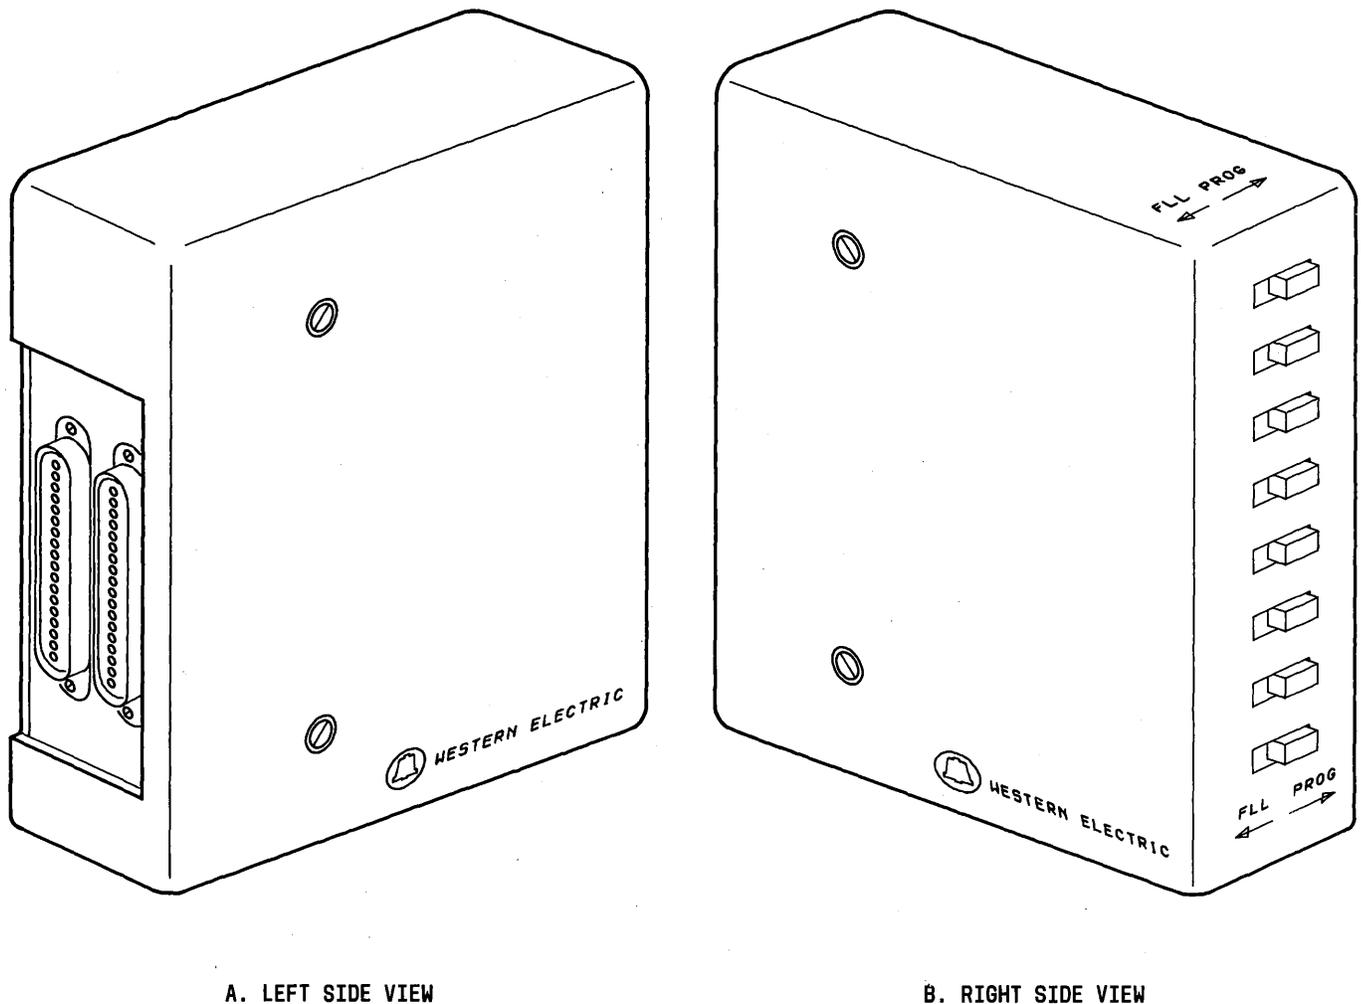

Fig. 8—97A1 Data Mounting E/W Eight D97A-Type Circuit Packs Installed in a D-180935 Mounting Kit
2.12 A gray plastic cover and base pan (D-180935 mounting kit) may be used to house a 97A-type data mounting to facilitate wall mounting (Fig. 8). The cover has eight slots which allows the